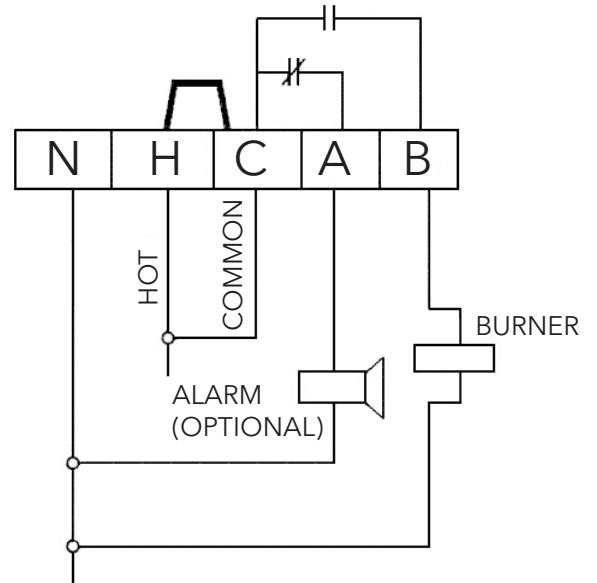

Figure 6
3.2 SAME VOLTAGE FOR THE CONTROL UNIT AND BURNER CIRCUIT. (Figure 6)